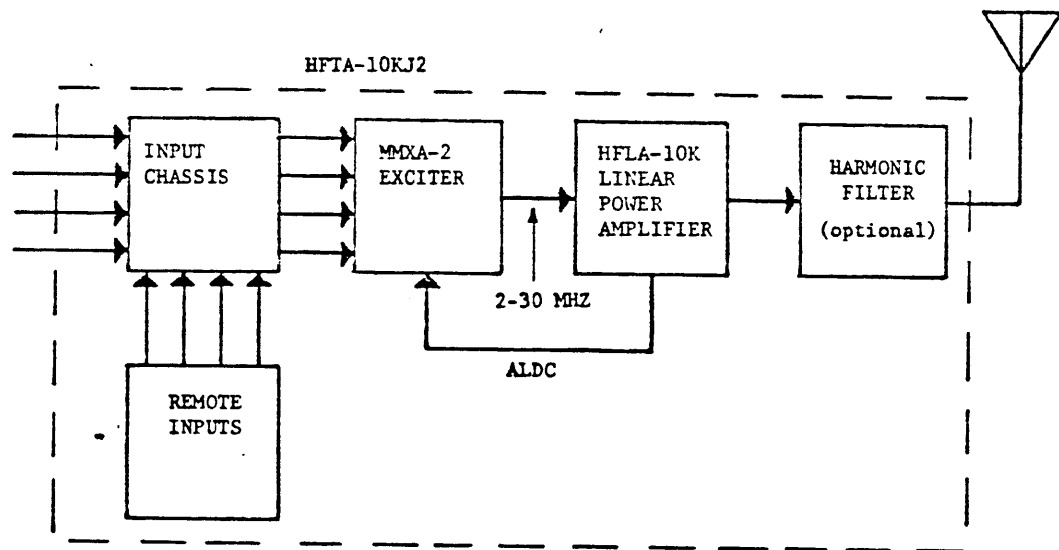

Figure 4-1. Functional Block Diagram
Figure 4-1 is an overall block diagram of the HFTA-10KJ2 which consists of an MMX(A)-2 Multi-Mode Exciter driving an HFLA-10K Linear Power Amplifier. The MMX(A)-2 provides at least 100 milliwatts of r-f power to the HFLA-10K within the operating range of 2 to 30 MHz in any one of the following modes: AM, AME (carrier reinserted), SSB, ISB, CW, FSK, or FAX. The HFLA-10K provides linear amplification of the MMX(A)-2 r-f output and provides 10 kilowatt PEP within the operating frequency range of the transmitter. The transmitter r-f is applied to a transmitting antenna which matches the 50 ohm output impedance of the HFTA-10KJ2.
- a. Overall block diagram (Section 4, Figure 4-1)